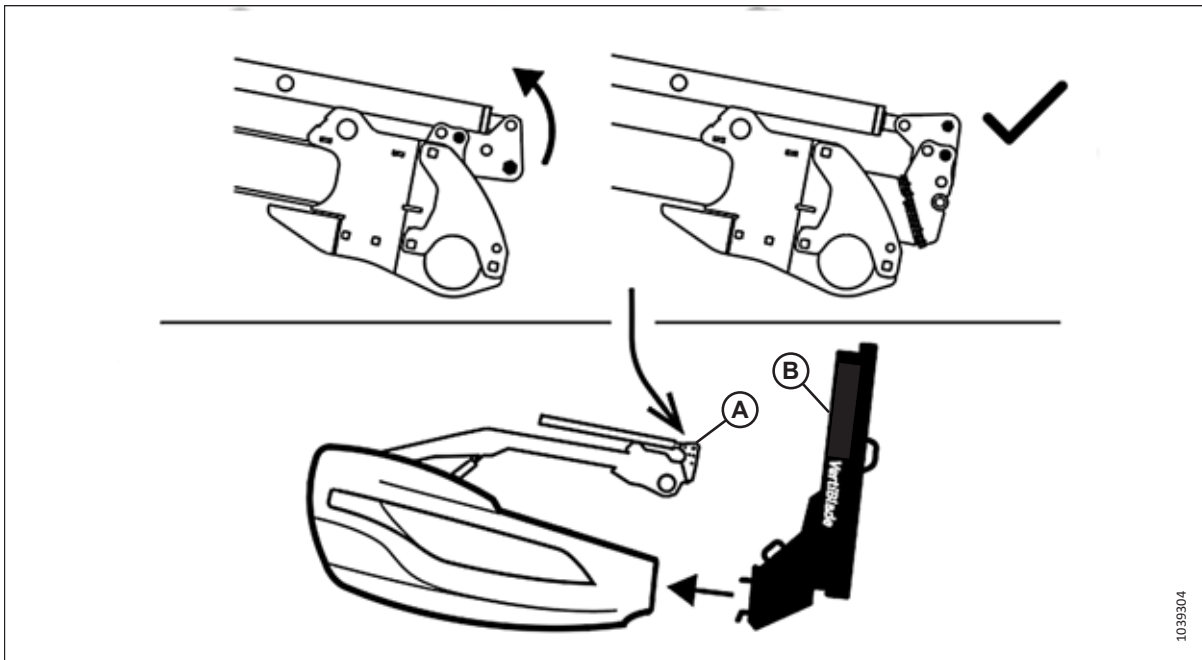

Figure 3.176: Reel Position with Vertical Knife Option Installed
To prevent contact between reel arm (A) and vertical knife (B), retract the reel fore-aft cylinder position as shown in Figure 3.176, page 154 before installing the vertical knives.